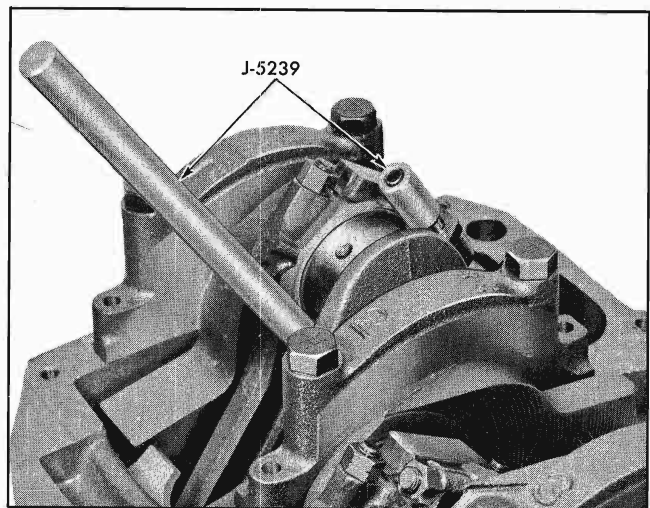

Fig. 6-67 Removing Connecting Rod and Piston Assembly with J-5239
5. Carefully remove connecting rod and piston assembly by pushing out with knurled handle of long guide (Fig. 6-67).